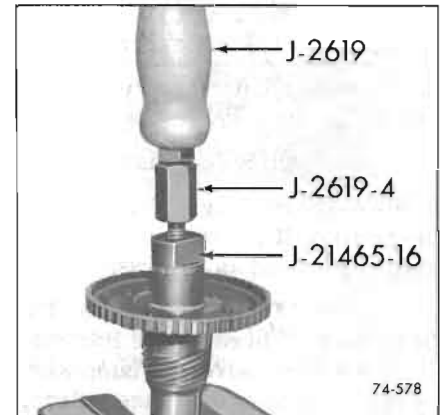

Figure 74-578
a. Thread Tool J-21465-16 into bushing using Slide Hammer J-2619. Remove. See Figure 74-578.